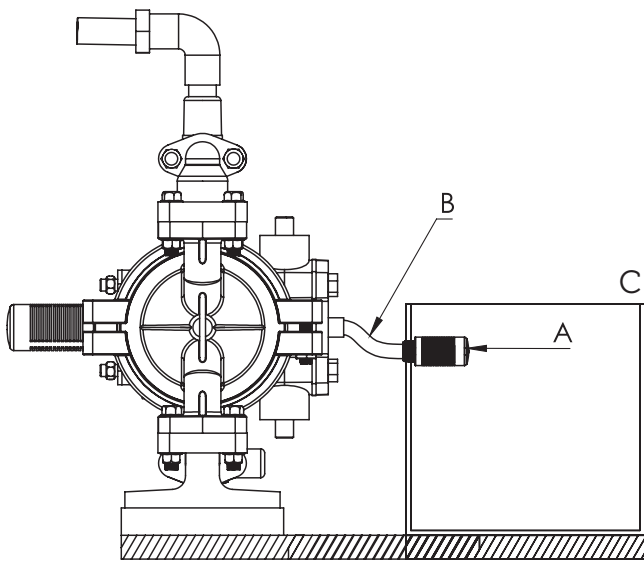

FIGURE 3
- Carry air outlet to a secure environment with pipe. In case of diaphragm explosion, since flammable material will move out with pressurized air, some accidents will be prevented. (See Figure 3)
- Installation should be made in a way to gather air outlet in a container by considering diaphragm explosion. You can see this in **Figure 3**